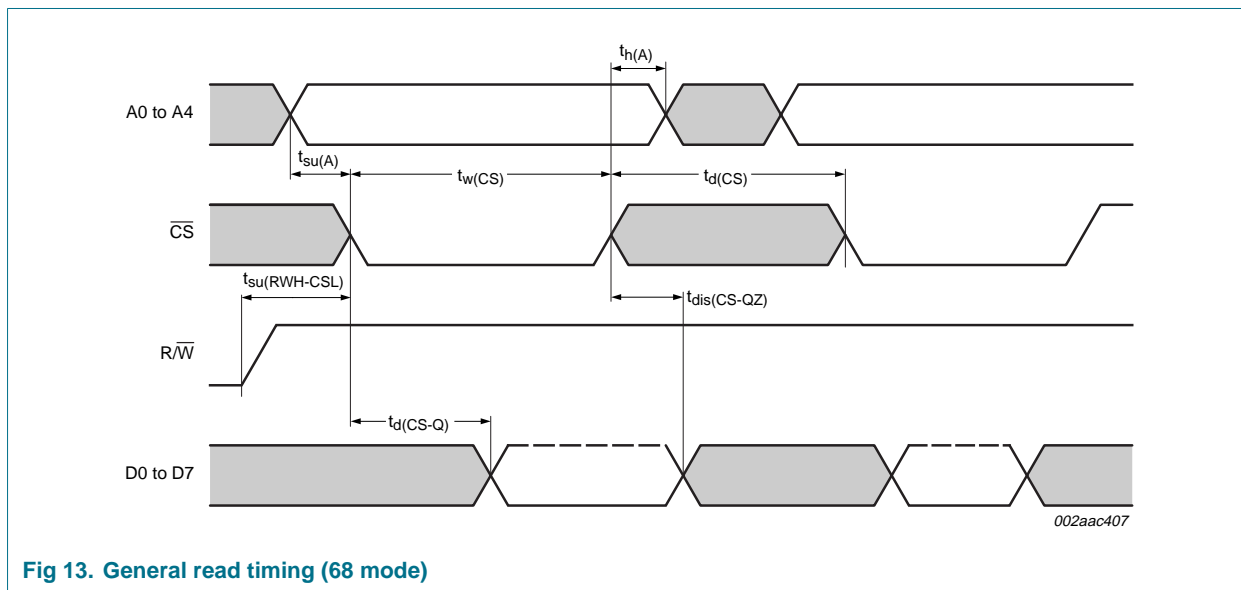

Fig 13. General read timing (68 mode)
(2)  $\overline{\text{CS}}$  timing during a read cycle. See Figure 13.